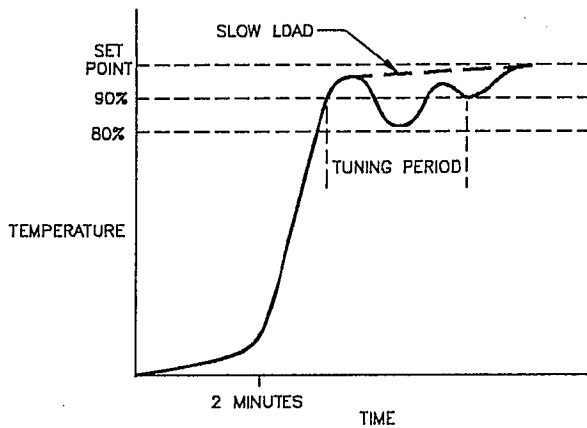

Figure 5. - Auto-Tuning
**Auto-tuning** See figure 5, page 5.